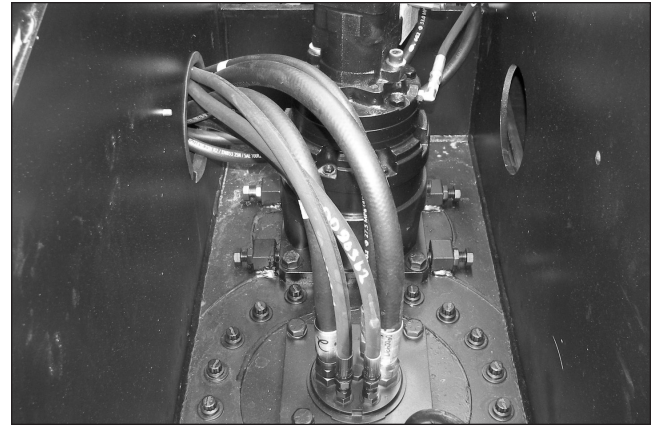

Figure 7.9 – Hoses, Tubes, and Fittings
1. Inspect all hydraulic hoses, tubes, and fittings for wear, leakage, or damage (refer to Figure 7.9).